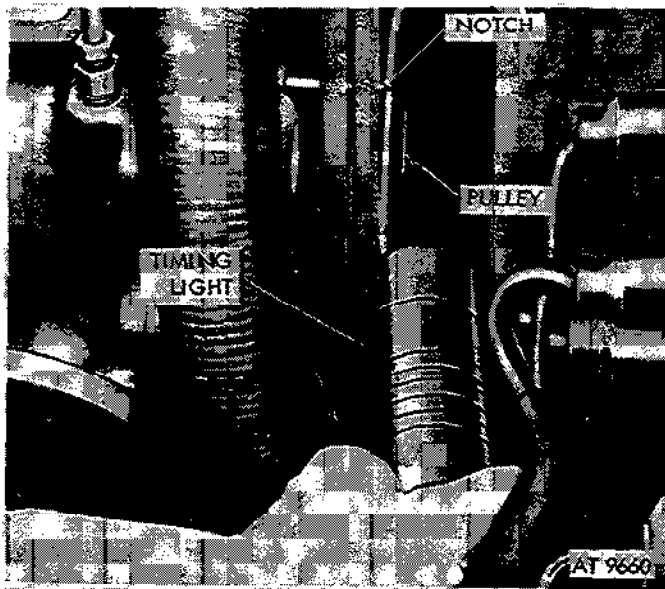

Figure 2-163. Checking timing using timing light.
(4) With engine idling, direct timing light at timing pointer on timing gear cover (fig. 2-163).
(5) Slowly rotate distributor until timing pointer and crankshaft pulley notch are alined. When timing marks are alined, firing will take place at 6° before top dead center of piston travel. When this alinement is accomplished, tighten distributor to distributor adapter mounting screw.
(6) After tightening mounting screw, recheck timing to determine that tightening has not disturbed alinement. Increase engine speed while directing timing light to notch and pointer. Notch should move away from pointer if distributor centrifugal advance is functioning. Disconnect all timing devices and install spark plug cable.